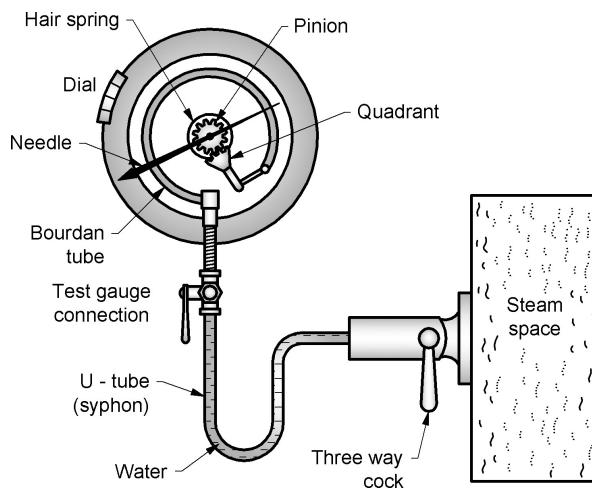

Fig. 2.1 Pressure gauge
- (1) Commonly used pressure gauge known as Bourdon pressure gauge is shown in Fig. 2.1. It consists of elastic metallic tube made from high quality phosphor bronze. It is of elliptical cross-section and bend in the form of circular arc.
- (2) One end of the tube is closed by plug and other end is connected to steam space of the boiler.
- (3) The pressure gauge is connected to the steam space of the boiler through U-tube siphon. Siphon is filled with water which prevents the hot steam from entering the Bourdon tube and keeps the gauge comparatively cool.
- (4) The closed end of the tube is attached by links to a toothed quadrant which in turn meshes with a small pinion fitted on the central spindle.
- (5) A pointer as shown in Fig. 2.1 is attached to the spindle on a dial gauge. The dial gauge is usually constructed to indicate up to double the maximum working pressure.